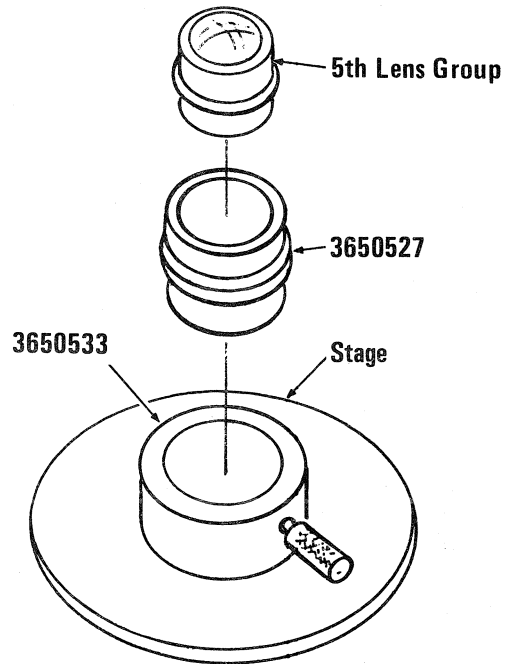

FIG. 6-12
- a) Assemble the tools, as shown in Fig. 6-12, to the microscope stage.